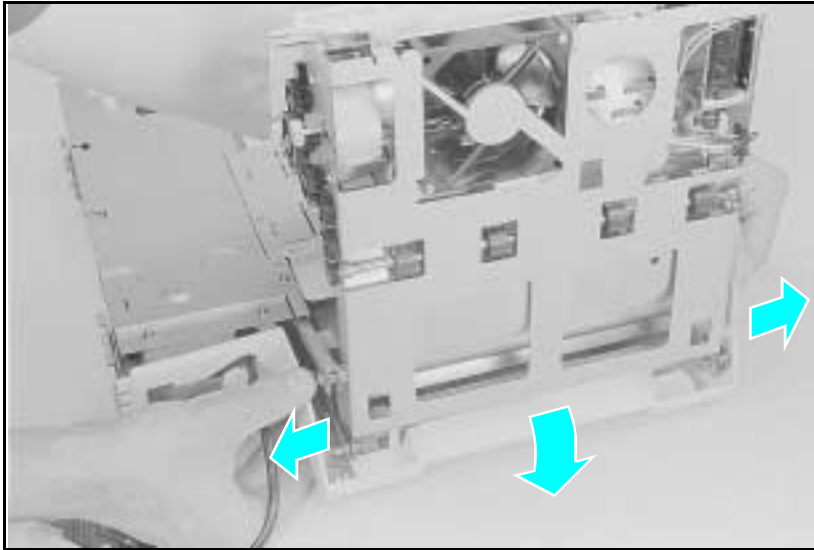

Figure A-9 **Back Cover**
- 2** Release the (2) locating pins as shown in Figure A-9.